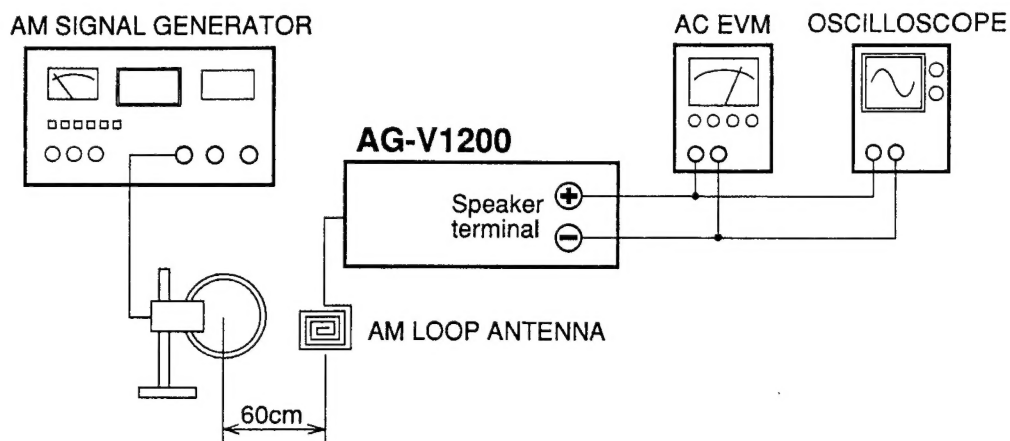

Fig. 2-1
1. Test equipment connections are shown in Fig. 2-1.